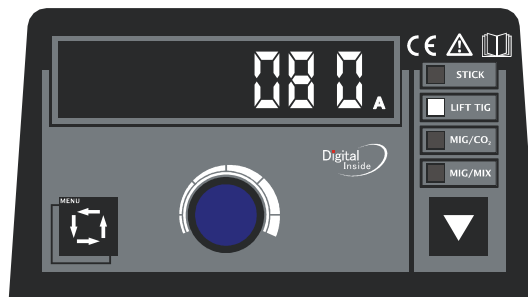

**Fig. 2 Preset current display with VRD enabled under STICK mode**
- When under STICK mode, pressing the **【VRD/2T/4T switch key】** for 5 second to selection the VRD function, the function is enabled when the indicator lights up, and displays in **【multifunctional data display】**. Or, the VRD function is disabled when the indicator is off as shown in Fig. 2.